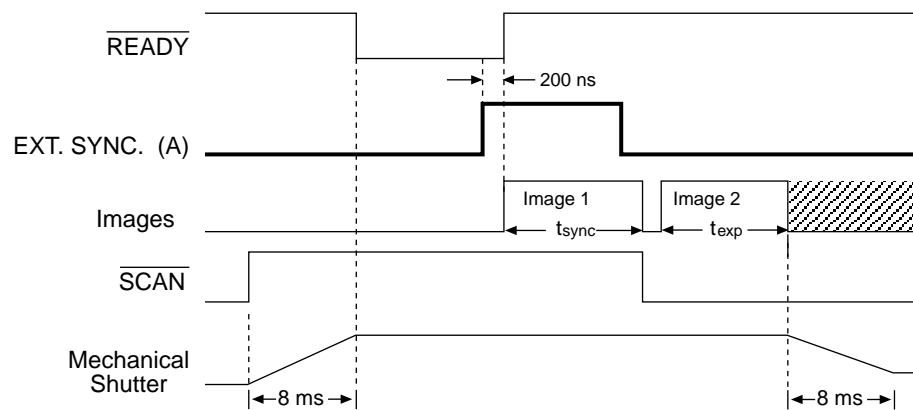

Figure 55. EEC timing example with exposure time in software set to  $t_{ex}$
**Example:** The exposure time for the first image is controlled with the signal applied to the **EXT. SYNC** connector. The exposure time for the second image is the exposure time set in software under Experiment Setup. An external trigger supplied by the user is required to initiate the imaging process and control the first image exposure time. The controller **READY** signal goes low when the camera is ready to begin imaging. Figure 55 illustrates an EEC timing example.